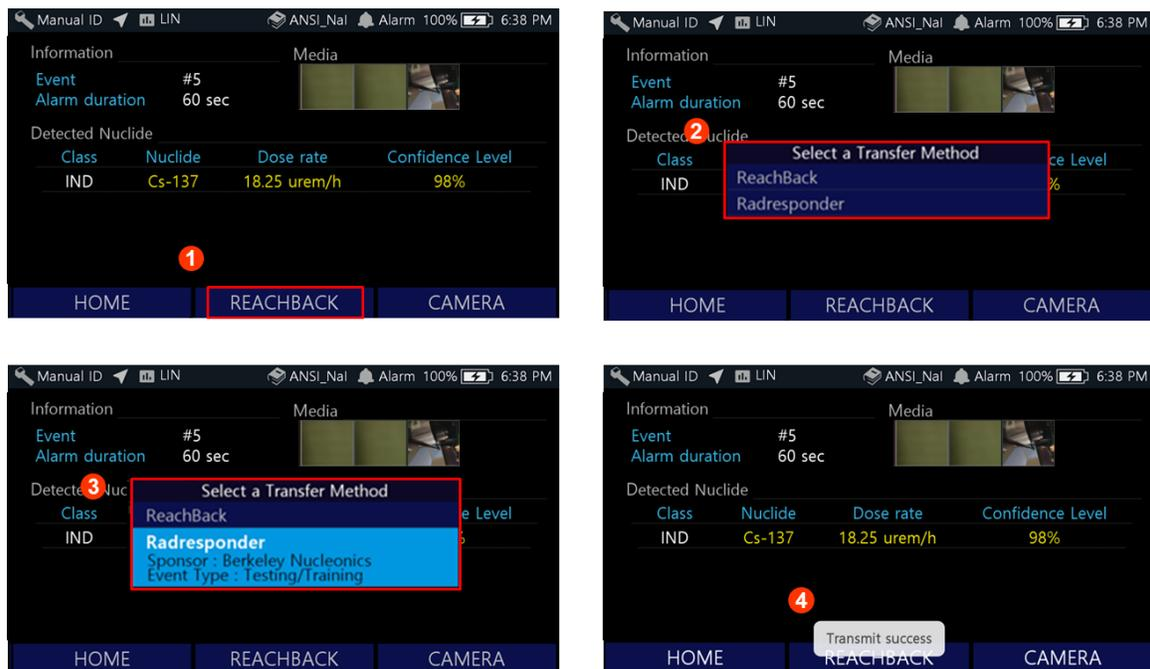

Figure 5.7.2. Transmit Event Report to RadResponder
3. RadResponder is highlighted and Sponsor/Event type information are shown (Figure 5.7.2)